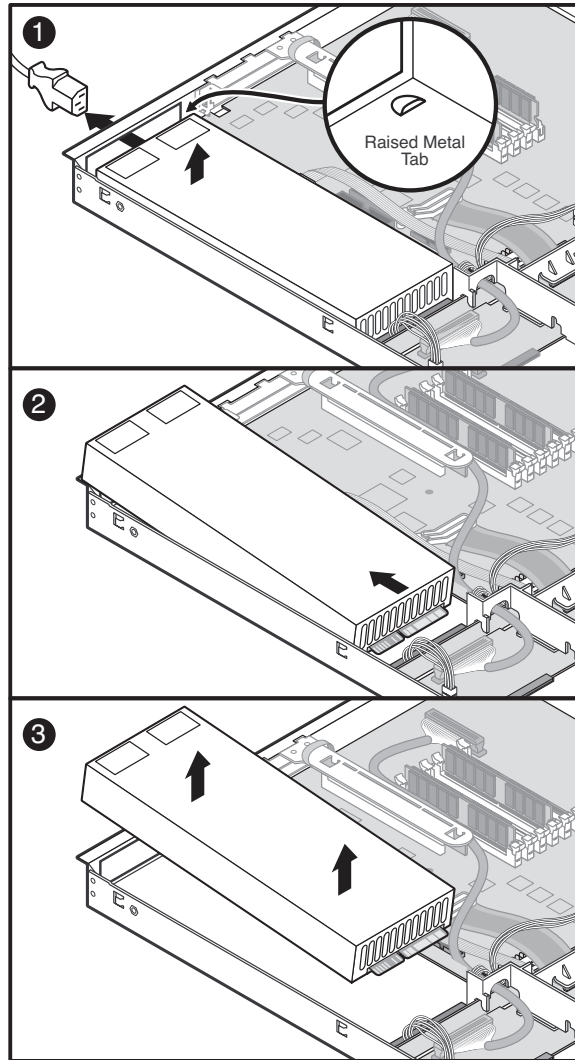

FIGURE 5-26 Removing the Power Supply
2. **Lift the rear of the module up (Figure 5-26, panel 2) only enough to clear the raised guides on the chassis floor.**
Caution – As shown in Figure 5-26, lift the rear of the power supply module up only enough to clear the raised guides. Lifting higher may damage the edge connector and power distribution board.